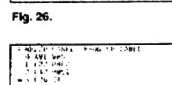

Fig. 26.
- 3 Select Parental Lock with Δ or ∇ and press OK. The PARENTAL LOCK menu appears. (See Fig. 26.)